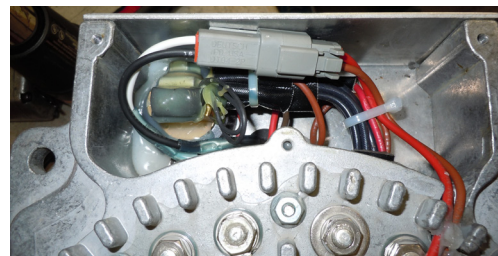

Figure 4: Secure Assembled Connector Inside of Control Unit
4. Place connector and wires into control unit. If control unit has a mounting clip, slide connector onto the clip. If a mounting clip is not used, use cable ties and support wiring as necessary. See Figure 4.